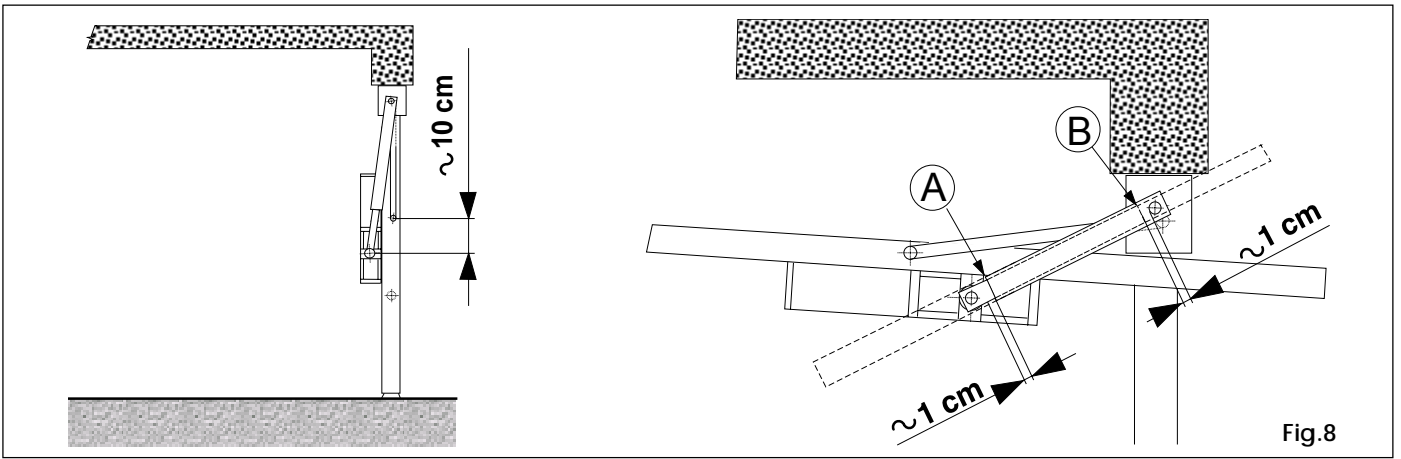
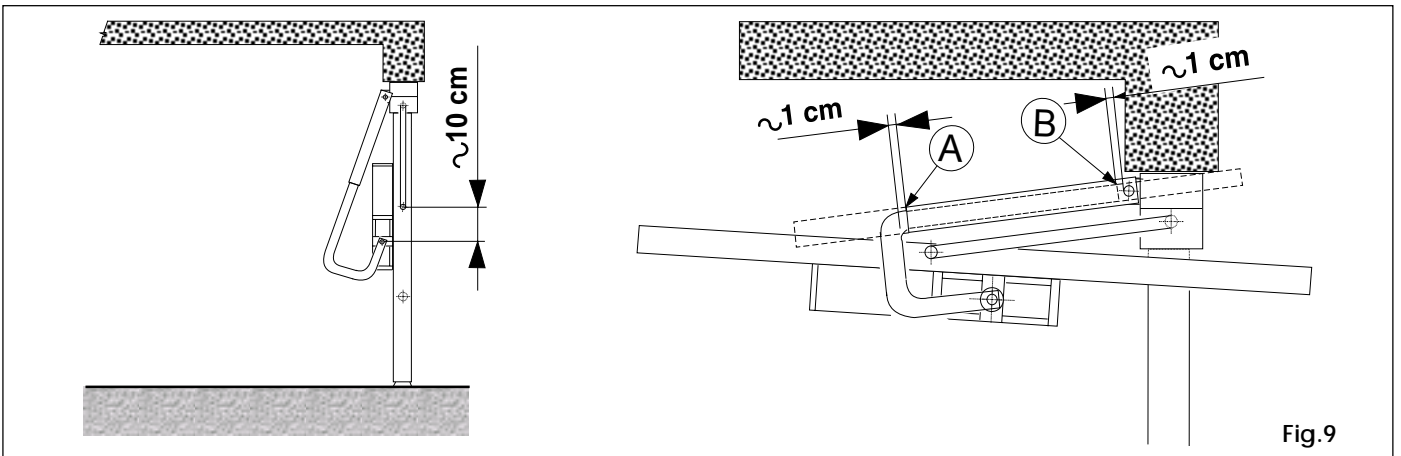

Fig.8
Fig.9
Ensure that there is a gap (**S** - **fig.5**) of at least **15 mm** between the existing cross bar and the frame. This is essential if straight telescopic arms are to rotate correctly as shown in **fig.8**.
If gap (**S**) is less than **15 mm**, the special curved telescopic arm must be used instead, and installed as shown in **fig.9**. Refer to **fig.4** to fix brackets (**D**) to the upright member as close as possible to the upper support of the existing cross bar. Fit the outer profiles of the arms. Respect maximum door dimensions as per the technical specifications and install either one operator (**FAAC 593**) at the centre of the door (**fig.6**) or two operators at the sides of the door (**fig.7**).
Locate the point of rotation of the drive shaft at **10 cm** below the bottom pivot of the door’s own arm as shown in **figs. 8 and 9**.
**Straight telescopic arm:** refer to **fig.8** - **Curved telescopic arm:** refer to **fig.9**
Open the garage door and position the telescopic arm as indicated in **figs. 8 or 9**. Cut the **outer profile** at point **A**. Cut the **inner profile** of the telescopic arm at reference point **B**. **N.B.** Leave a gap of about 1 cm at the ends of both profiles. Insert the drive shafts (**T**) in the inner profile of the telescopic arm (**Q** - **fig.4**), already cut to size, and drill an 8 mm hole. Secure by means of an M8 bolt.